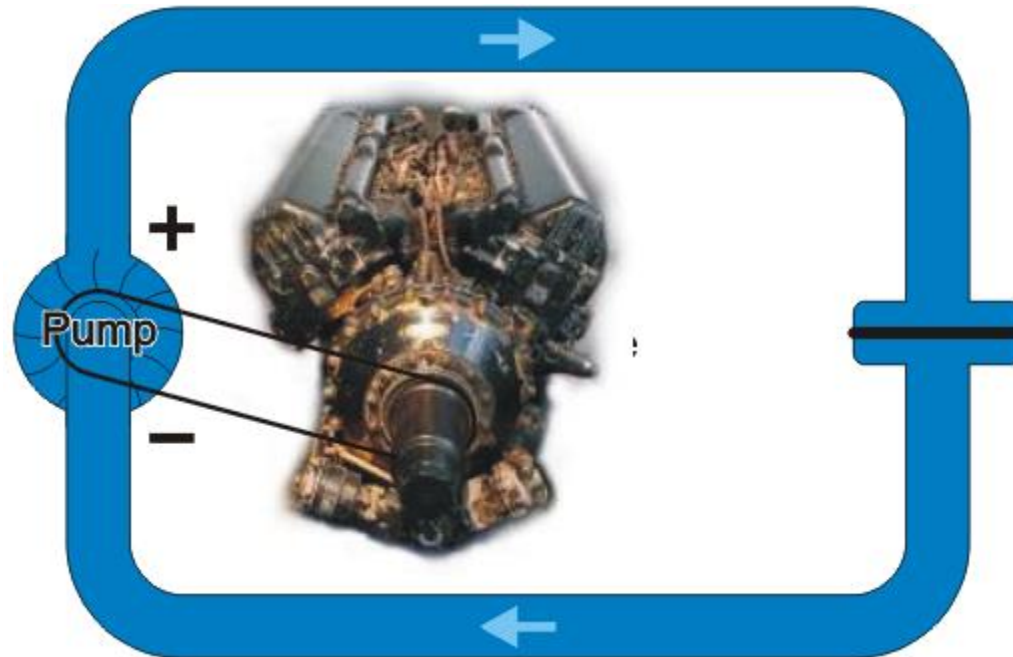

Fig 12: Using an engine which is able to provide a constant current.
- In this case, as you may guess by inspecting **Fig.12**, the membrane will begin to stretch and ultimately it will rupture.